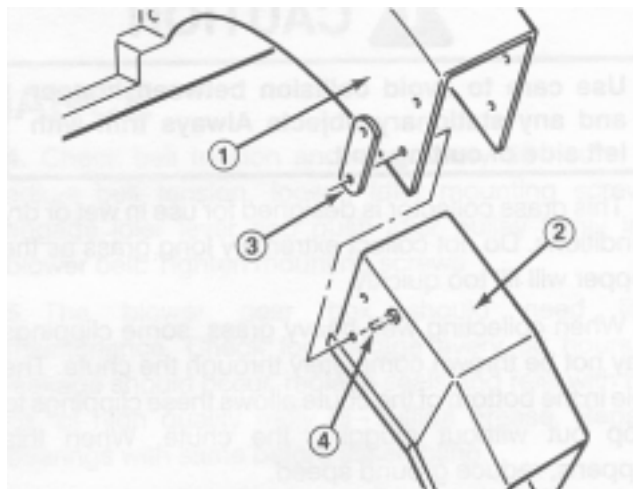

Figure 7
8. Install chute extension provided with kit. Attach chute extension to grass catcher hood with (2) nut plates, (4) button head screws, using existing mounting holes (Fig. 7)
2. Slide chute over blower opening and onto mounting studs (Fig. 7).